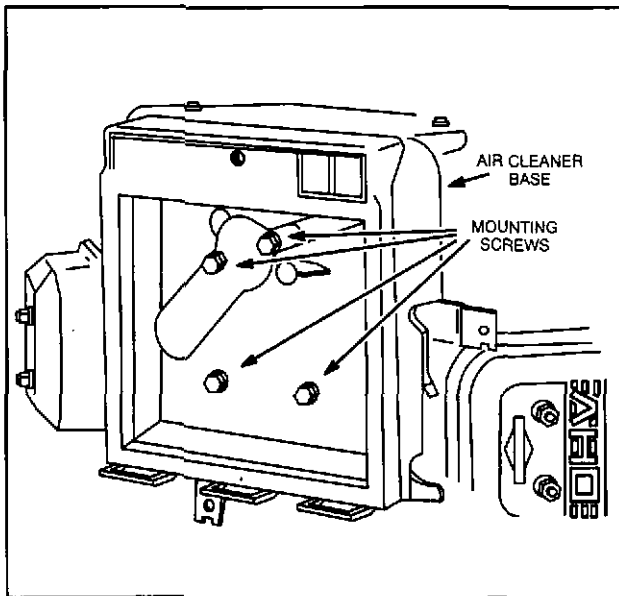

Fig. 85 - Installing Base (Early Style)
**Early style:** Insert air cleaner base to carburetor mounting screws through breather deflector and base and place base to carburetor gasket on screws, Fig. 85. Guide breather tube onto nipple on breather and install mounting screws in carburetor. Do not tighten screws at this time. Now, install two air cleaner bracket screws. Torque all four screws to 7 Nm (65 in. lbs.). Make sure air inlet tube is installed correctly in air cleaner base.